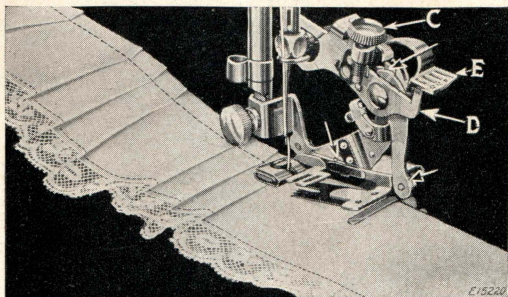

FIG. 53
The ruffler can be adjusted for group plaiting by lifting the adjusting lever (E, Fig. 53) and moving
it to the right so that the top of the projection (D, Fig. 53) enters the small slot indicated by the star on the adjusting lever. This should be done at the points where you wish to make the space between the plaits. The ruffler will then stop and plain stitching will be made. When the desired space has been made, adjust the lever (E) so that the projection (D) enters either the slot marked "6" or the slot marked "12." By alternately making groups of plaits and plain spaces, as shown in Fig. 53, very attractive work can be produced.
Occasionally apply a drop of oil to the working parts of the ruffler at each of the places indicated by the unlettered arrows in Fig. 53. After oiling, operate the ruffler on a waste piece of material to prevent the oil soiling the work. If the ruffler does not plait evenly, a drop of oil may remedy the trouble.